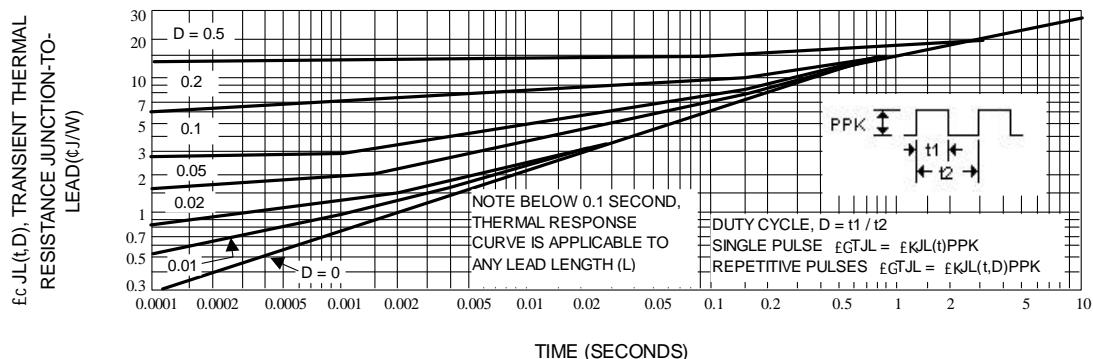
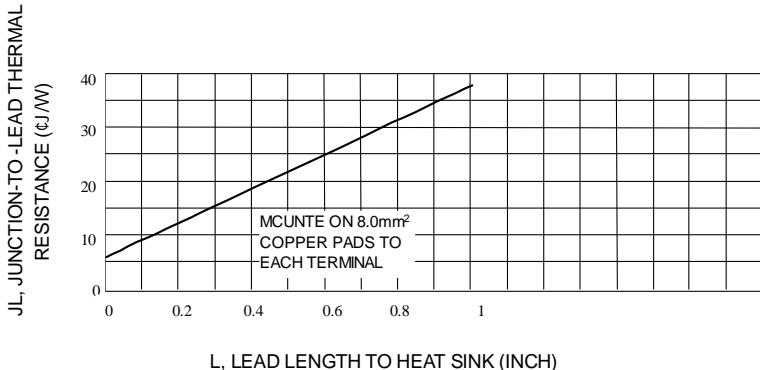
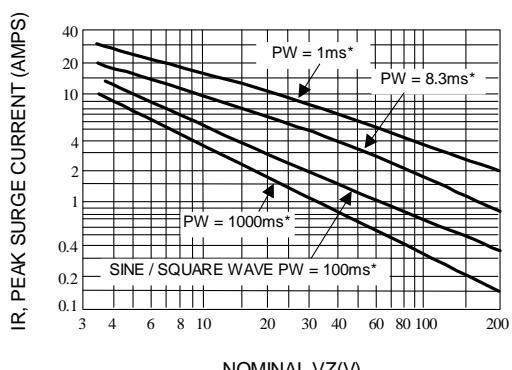
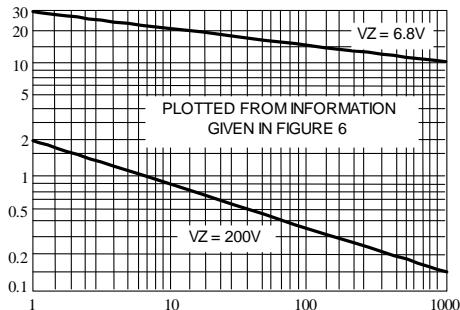

Fig. 3-TYPICAL THERMAL RESPONSE
Fig. 4-TYPICAL THERMAL RESISTANCE
Fig. 5-MAXIMUM NON-REPETITIVE SURGE CURRENT VERSUS NOMINAL ZENER VOLTAGE (SEE NOTE 3)
Fig. 6-PEAK SURGE CURRENT VERSUS PULSE WIDTH(SEE NOTE 3)
3. SURGE CURRENT (I_s) - Surge current is specified as the maximum allowable peak, non-recurrent square-wave current with a pulse width, PW, of 8.3 ms. The data given in Figure 5 may be used to find the maximum surge current for a square wave of any pulse width between 1 ms and 1000ms by plotting the applicable points on logarithmic paper. Examples of this, using the 6.8v and 200V zeners, are shown in Figure 6. Mounting contact located as specified in Note 3. ($T_A=25 \text{ }^{\circ}\text{C} \pm 5\%$).
ΔT_{JL} is the increase in junction temperature above the lead temperature and may be found from Figure 3 for a train of power pulses or from Figure 4 for dc power.
Data of Figure 3 should not be used to compute surge capability. Surge limitations are given in Figure 5. They are lower than would be expected by considering only junction temperature, as current crowding effects cause temperatures to be extremely high in small spots resulting in device degradation should the limits of Figure 5 be exceeded.
*** Data of Figure 3 should not be used to compute surge capability. Surge limitations are given in Figure 5. They are lower than would be expected by considering only junction temperature, as current crowding effects cause temperatures to be extremely high in small spots resulting in device degradation should the limits of Figure. 5 be exceeded